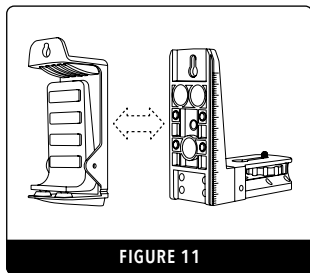

FIGURE 11
- Attach the two mount pieces together with the screw hole at the top (Fig.11) and follow the instructions for method 1.